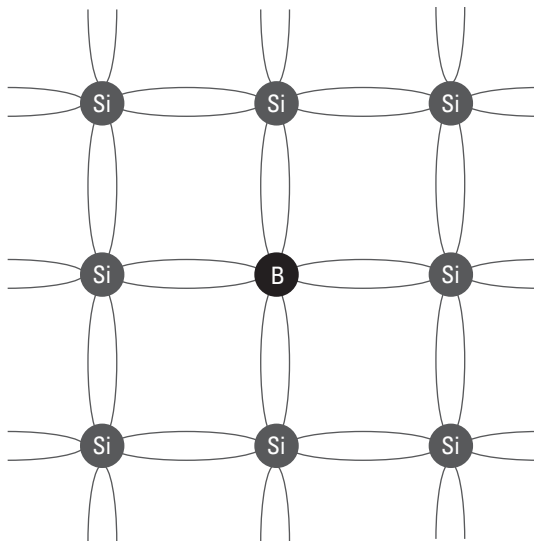

Figure 5-4: A P-type semiconductor has holes where electrons should be.
- ◆ **P-type semiconductor:** Happens when the dopant is an element (such as boron) that has only three electrons in the valence shell. When a small amount of boron is incorporated into the crystal, the boron atom is able to bond with four silicon atoms, but since it has only three electrons to offer, a gap is created where there would normally be an electron, as shown in Figure 5-4. This electron gap is called a *hole*. The hole behaves like a positive charge, so semiconductors doped in this way are called *P-type semiconductors*.